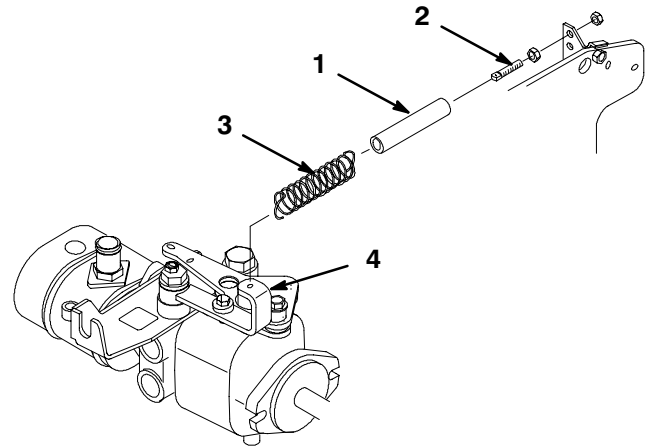

Figure 6
22. Insert hose dampener into new spring (Fig. 6).
23. Hook spring onto pump arm and adjusting pin (Fig. 6).
24. Secure adjusting pin to spring bracket with jam nut (Fig. 6).